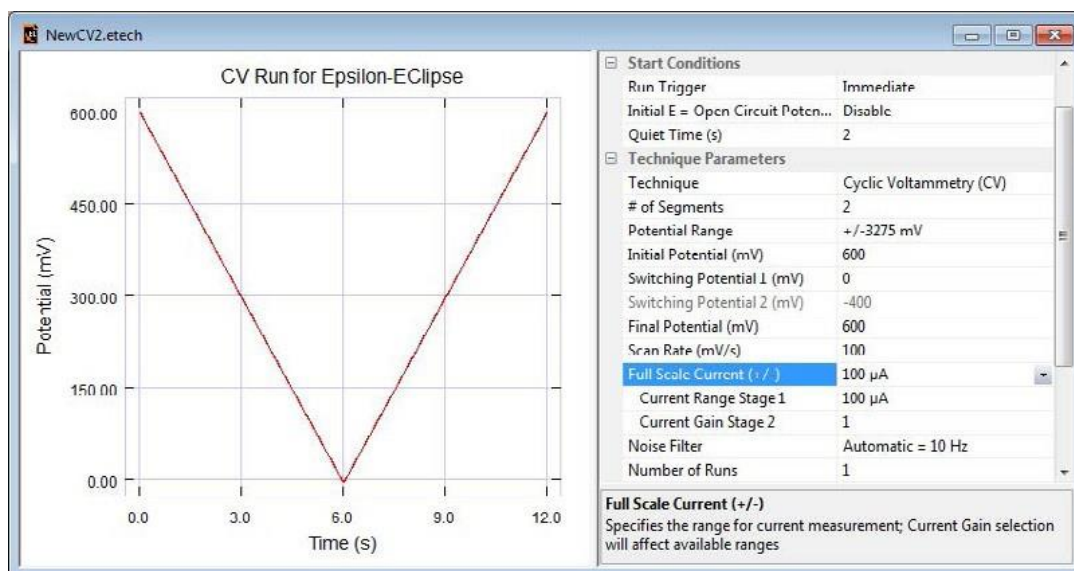

Figure 2 - Editing the .etch for Cyclic Voltammetry
4. Select **Cyclic Voltammetry**. The new .etech file can now be edited. Enter the values shown in **Figure 2**. Note that **Switching Potential 2** is not required since there are only 2 segments (**Initial Potential** to **Switching Potential 1** to **Final Potential**). Various experimental data can be entered into the **Experimental Conditions** section. These notes will also be saved when the experimental data is saved. Once these changes have been entered, an experiment using these parameters can be run by clicking the **RUN** button. An experiment can be run using either **Run** in the **Experiment** menu, or the **RUN** icon on the Tool Bar. This icon will change to **STOP** during the experiment, and can be used to abort the experiment.